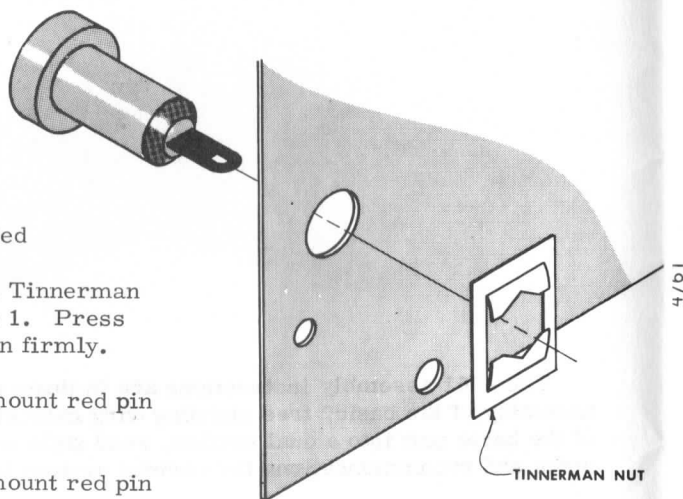
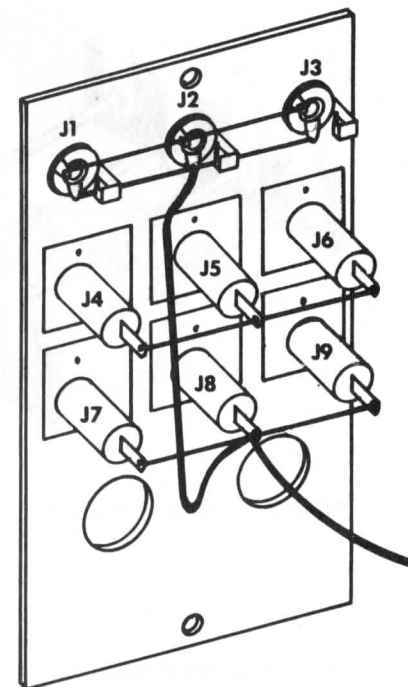

Figure 1 - Pin Jack Mounting
Figure 2 -
- () Place a red pin jack (J4) in the hole provided as shown in figure 2. Fasten in place with a Tinnerman nut as shown in figure 1. Press the tinnerman nut down firmly.
- () Mount miniature phone jack J1 in the location shown in figure 2. Orient as illustrated and carefully tighten the mounting nut provided with the jack.